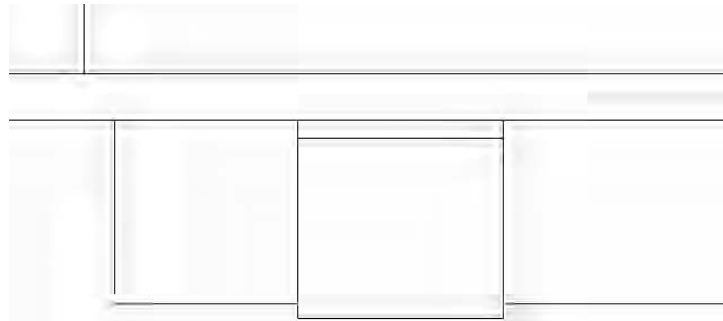

FIGURE 5.19: The stove with the control panel drawn
2. Offset the wall line down 2.5". When you pick the line, pick it somewhere to the right or left of the stove. Then after it's offset, trim it back to the sides of the stove (see Figure 5.19).